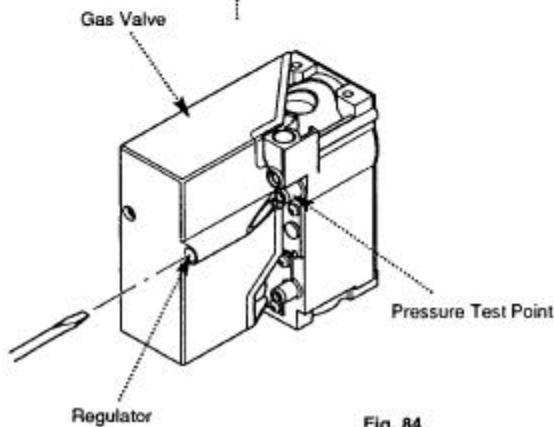

Fig. 84
3. If necessary, adjustment to main burner pressure can be made by altering the regulator as shown (Fig. 84).
4. To alter the burner pressure, turn the adjustment screw in either direction until the required pressure is obtained (Fig. 84).
5. Turn the boiler thermostat to the OFF position marked 0. Remove the pressure gauge and screw home the pressure test point screw. Turn the boiler thermostat knob to the required setting (Fig. 84).